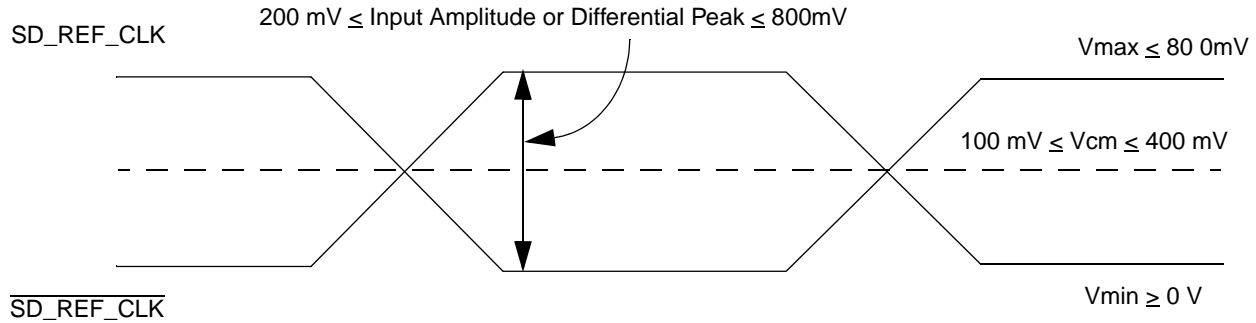

Figure 17. Differential Reference Clock Input DC Requirements (External DC-Coupled)
- For **external DC-coupled** connection, as described in Section 10.2.1, “SerDes Reference Clock Receiver Characteristics,” the maximum average current requirements sets the requirement for average voltage (common mode voltage) to be between 100 mV and 400 mV. Figure 17 shows the SerDes reference clock input requirement for DC-coupled connection scheme.